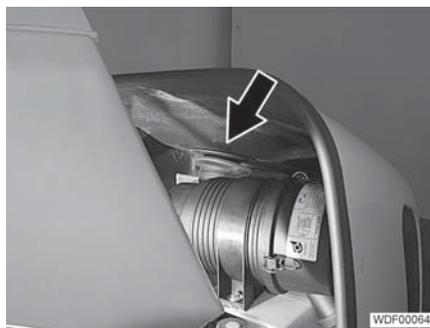

Fig. 89 Position of the air filter
- Carefully close the engine hood and check the position of the air filter (Fig. 89).